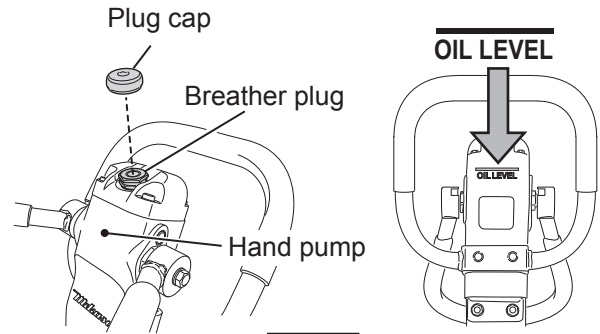

Fig.38
Check the hydraulic oil at every 100 hours' operation. By making the handle bar vertical (done at the time of storage), remove the breather plug at the top of the hydraulic hand pump to see if the hydraulic oil is at the specified level (OIL LEVEL). (Fig. 38)
- 1 Remove the plug cap of the hand pump. Then remove the breather plug (with 24mm wrench) before removing the hydraulic hose connected to the cylinder on the vibrator side. Set the control lever to forward, then drain the hydraulic oil from the pump. (Fig.38, 39)
- 3 Pour hydraulic oil(300cc) from the hand pump breather plug attachment hole. (Fig.38)